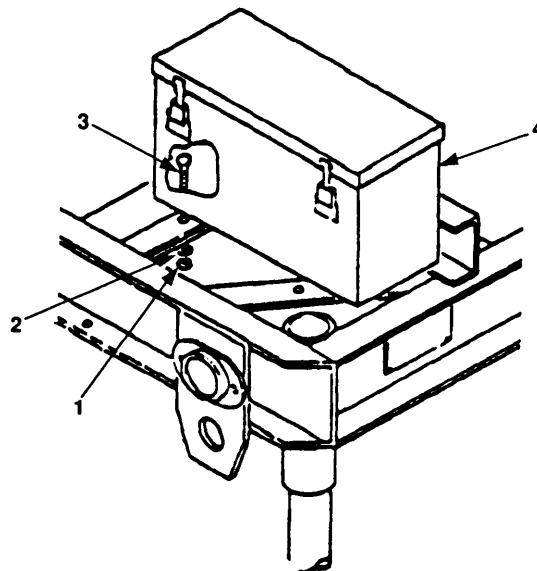

Figure 4-62. Tool Box Maintenance.
- a. Open lid of tool box (4).
- b. Remove three nuts (figure 4-62, 1), lockwashers (2), and bolts (3) that secure tool box (4).
- c. Remove tool box (4).
- a. Open tool box (4) and align mounting holes.
- b. Insert three bolts (3) through mounting holes.
- c. Install lockwasher (2) and nut (1) on each bolt (3).